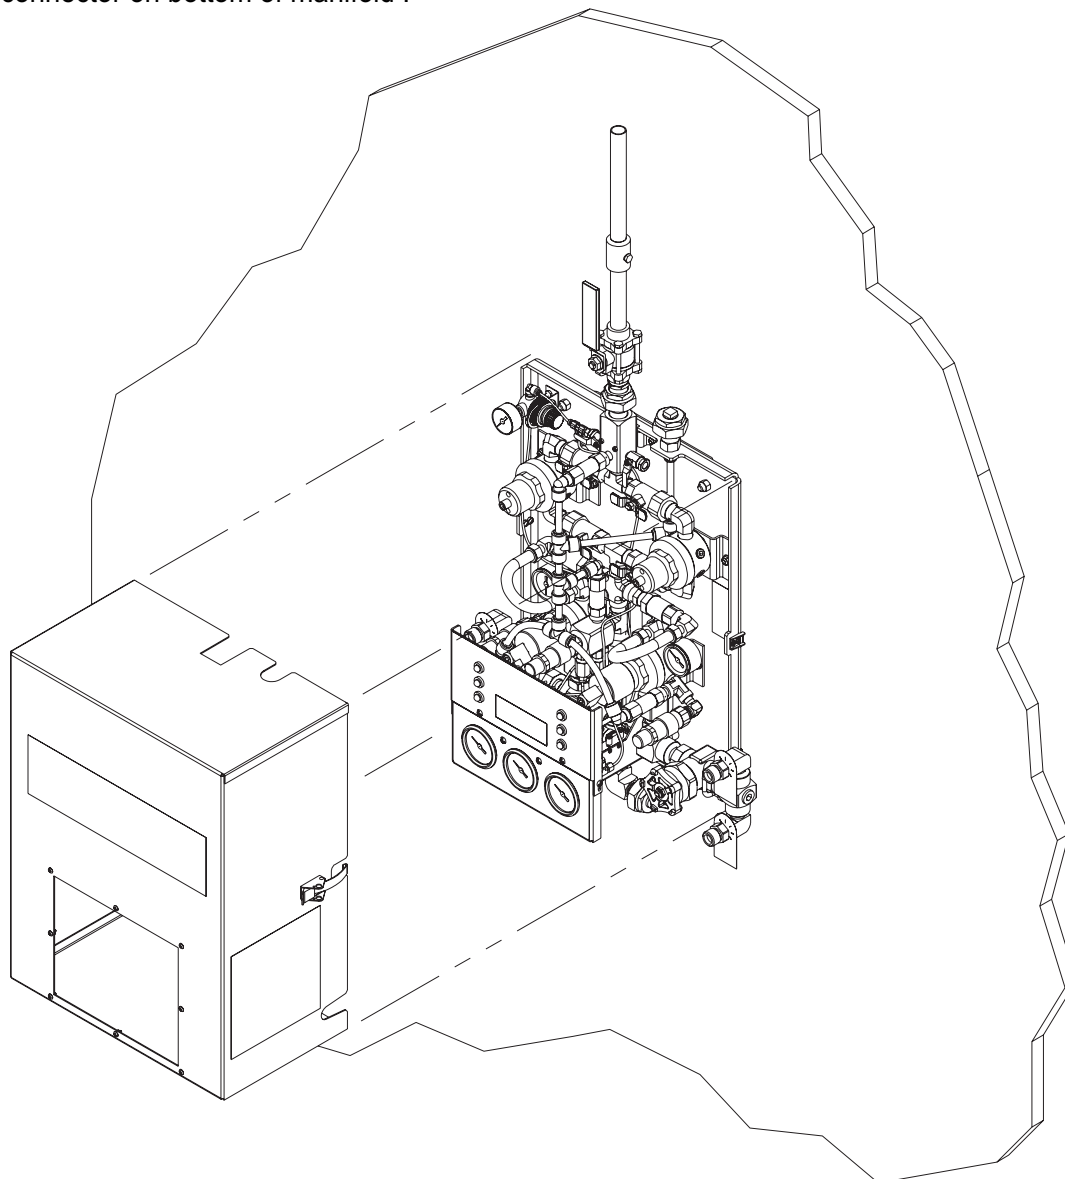

Figure 16
1. Release two latches on sides of manifold cover (one on each side). Remove cover as shown in Figure 16.